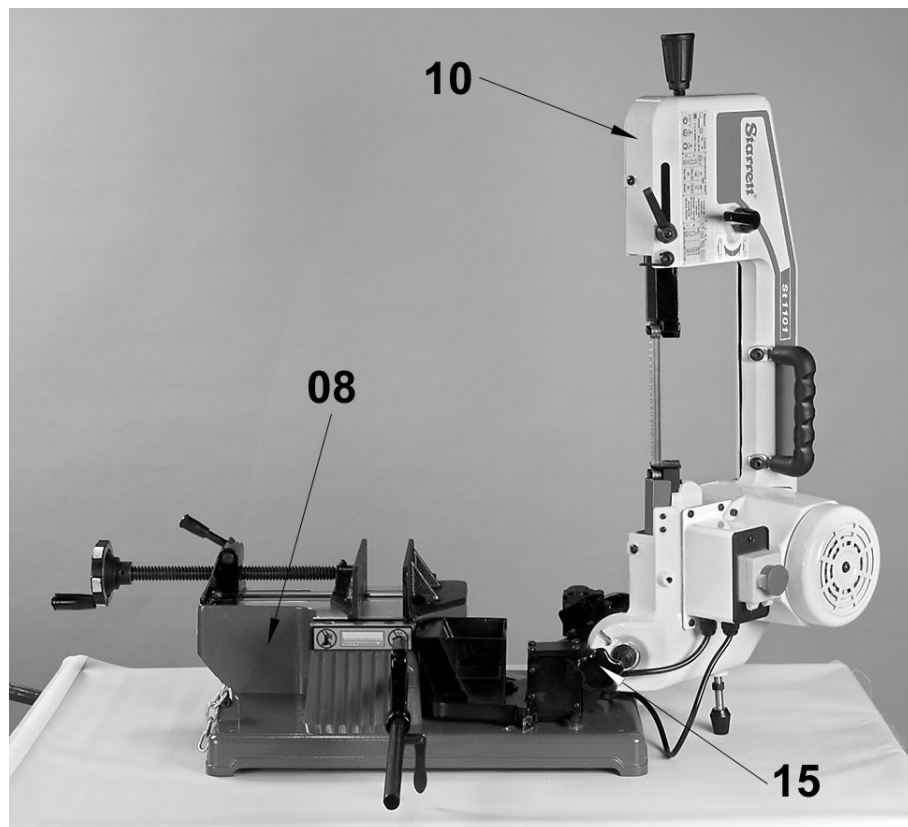

Figure 04
In order to move the Arc (10) upwards (figure 04), it should be first unlocked by the Arc Lock Knob (15).